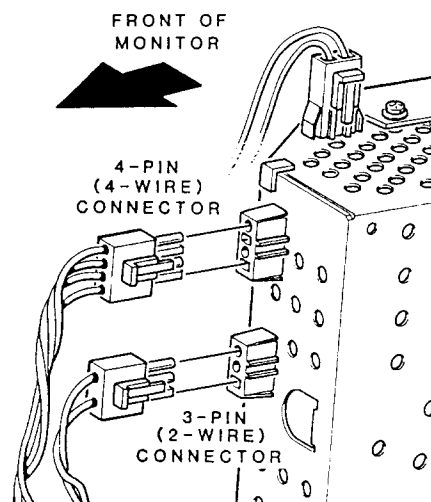

Figure 3-20. Disconnecting Power Supply Assembly Connectors
4. Disconnect the 3-pin, 2-wire and the 4-pin, 4-wire connectors from the front of the power supply assembly, as shown in Figure 3-20.